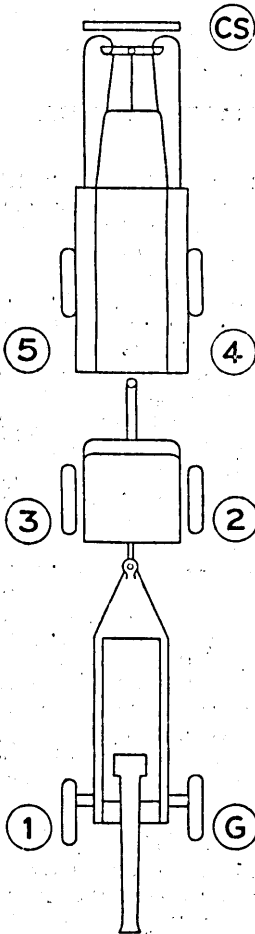

FIG. 2.
8. **Posts of the Cannoneers.**—*a. Carriages limbered or coupled.*—The cannoneers of the gun squad are posted as shown in figs. 2 and 3. All are 2 feet outside the line of wheels and are facing to the front. Higher-numbered cannoneers, if present, are posted as prescribed by the chief of section.